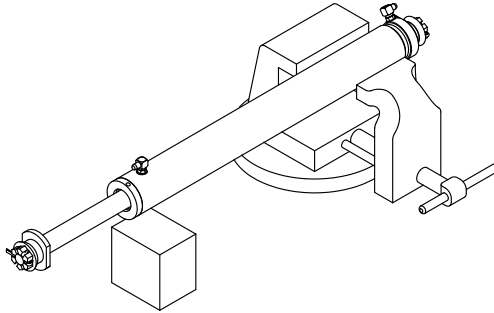

Figure 5-5, Cylinder Vise
2. Clamp the cylinder lightly at the base end in a soft jawed vise. Use a block or other support under the rod end of the cylinder. (Figure 5-5)